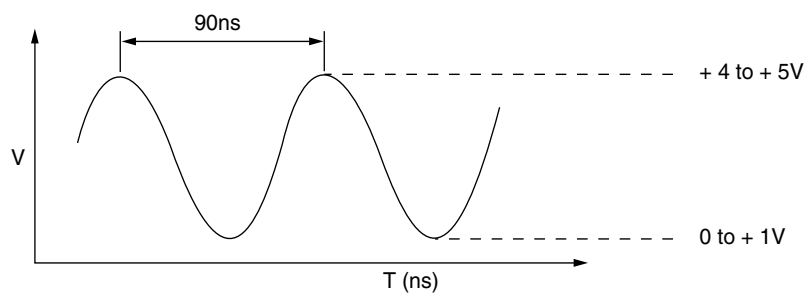

Figure B-3-1
• Is the waveform of OSC as shown in Figure B-3-1?